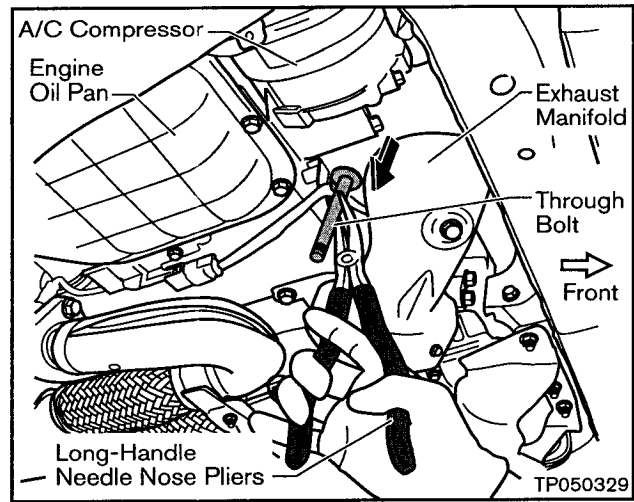

Figure 10b
- Reach up between the Exhaust Manifold and A/C Compressor with a pair of Long-Handle Needle Nose Pliers and remove the Through Bolt (see Figure 10b).